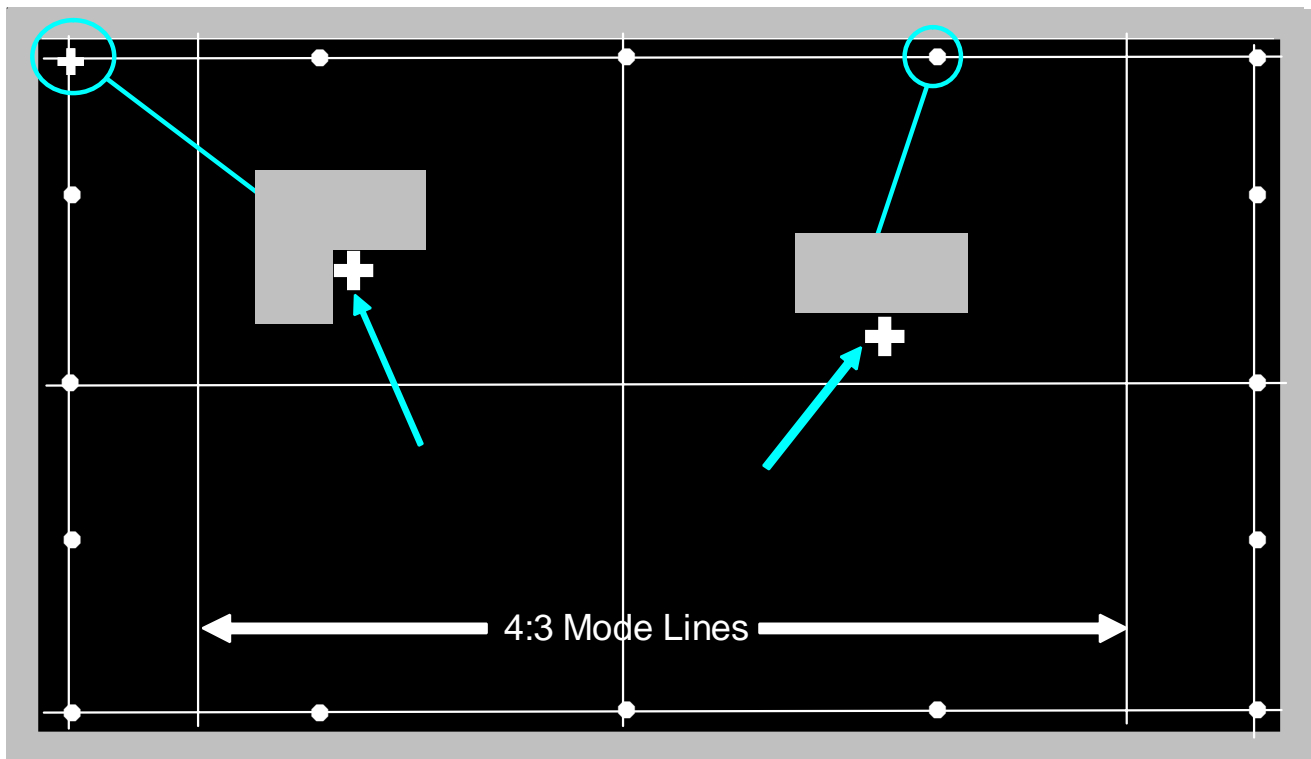

Figure 1: Adjustment Mode Pattern
4. Align each point in a straight line, use the Bezel as a reference. See example drawing in *Figure 1*.
When possible, the indication will be placed close to the part number that is screened onto the PCB (not the part label). *Figure 1* is an example of a PCB showing the display and its location.